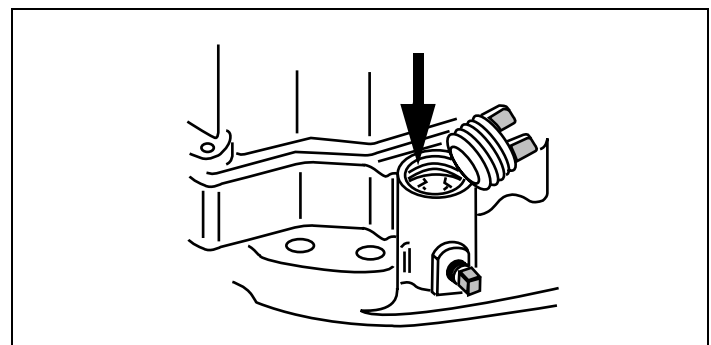

Figure 9. Engine With Oil Fill Plug
2. Clean area around oil fill plug. See Figure 9.